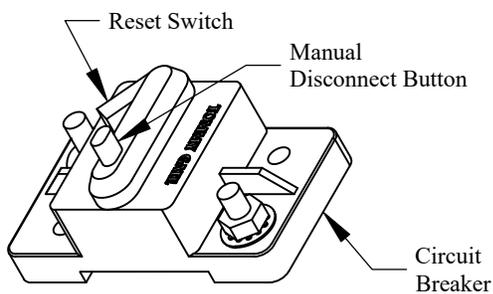

Figure 2: Circuit Breaker.
3. **Disconnect** the #2 power cable from the positive side of the battery or manually **Trip** the circuit breaker (Figure 2).
9. **Connect** the #2 power cable to the positive side of the battery or manually **Engage** the circuit breaker (Figure 2).